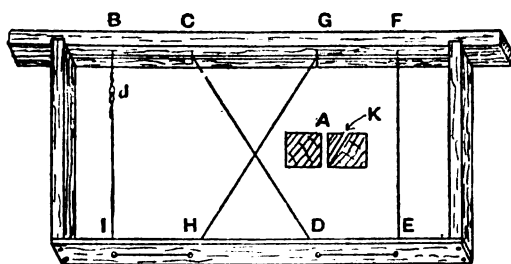
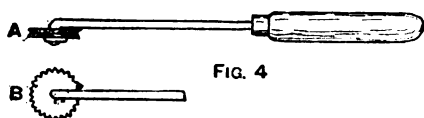

FIG. 1
FIG. 4
**Fixing Comb Foundation in Beehive.**—In a bar-frame beehive, sheets of wax impressed with the bases of cells are fixed in the frames, and on this comb foundation the bees work and draw out the walls of the cells, making the combs  $\frac{1}{2}$  in. thick for rearing a worker brood, and up to 2 in. thick for storing honey. In most frames the top bar is sawn through, as shown at A (Fig. 1), and the foundation is passed through the saw kerf and secured by driving a couple of nails through the bar. Some bars are sawn only half-way through, and the foundation is fixed by means of a wedge. If the wax is fixed to the top bar only and placed in the hive, and it hangs perfectly plumb and conditions are favourable, the bees will set to work and fill the frame with comb, but the weather may be against the production of comb.
If the bees do not work on the foundation at once, it is liable to warp, which will make the combs crooked, or in hot weather the weight of the bees will sometimes break down the foundation. The best way to overcome these difficulties is to wire the foundation into the frames, No. 30 B. W. G. tinned wire being used for the purpose. This can be obtained from appliance dealers for 6d. a reel. A simple and effective way of wiring a frame is as follows. Cut a piece of board (Fig. 2) to fit loosely inside the frames, and by means of a square mark lines across at  $\frac{1}{2}$  in. and  $\frac{1}{4}$  in. from the ends as shown. Put the board inside a frame and mark the points B to I (Fig. 1) where the lines touch the top and the bottom bars. Now take away the board, and with a bradawl bore fine holes through the centres of the bars at the points marked, making the hole through the top bar, as at K (Fig. 1), to avoid the saw kerf. Next twist a loop on the end of the wire A (Fig. 3), unwind a little more than a yard from the reel, and break by forming a kink, as shown at B (Fig. 3), and pulling with a sharp jerk. Now pass the end of the wire through the hole B (Fig. 1), then through C and so on, finally securing by passing through the loop at J, pulling up fairly tight and twisting the loose end into a loop as shown; afterwards cut off the waste end. Next, slip a sheet of foundation into the top bar groove, and place the frame with the wire uppermost on the board (Fig. 2). Then take a spur imbedder (Fig. 4), heat the wheel on a stove or in a flame to wax-melting heat, place the groove in the wire and run it along, when it will press the wire into the wax, and the heat will cause a coating of wax to cover the wire. The imbedder consists of a piece of wire about  $\frac{1}{4}$  in. in diameter fixed in a wooden handle, the end being bent at right angles to form a journal for a grooved spur wheel about  $\frac{1}{4}$  in. in diameter and  $\frac{1}{2}$  in. thick. A (Fig. 4) shows the groove in the wheel and B the teeth, which may be easily cut with a small saw file. If half-sheets of foundation are used, the wire may be fixed in the frame,
as shown by Fig. 5, the holes being bored at A, B, C, and D, and the wire put through as described for Fig. 1, and finished off with loops at E. It is possible for some sheets of foundation to be wired in the frames for more than three years without the wax warping or twisting in the slightest degree. Where combs are used for extracting, the foundation should always be wired into the frames.